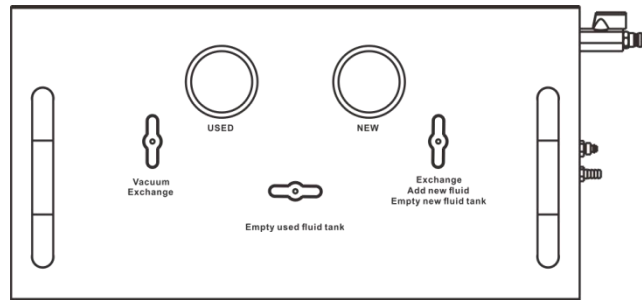

Fig.12
1. Open “Empty used fluid tank” panel valve; (Fig.12)